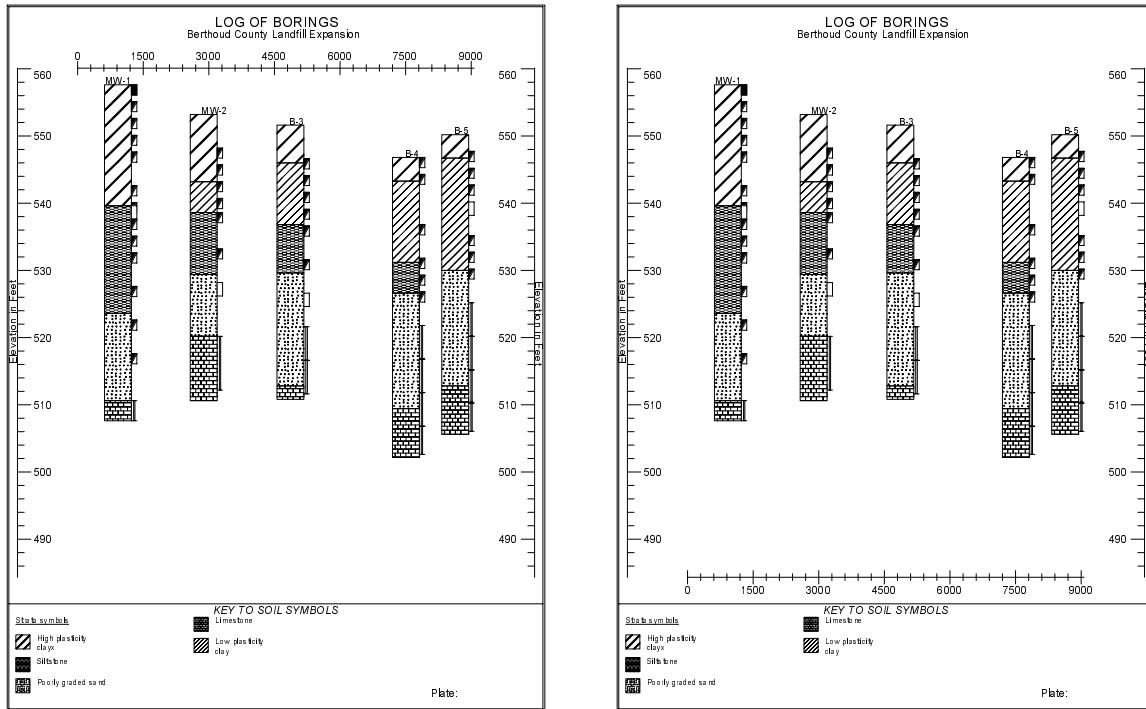

Figure 2.22 -- Profiles with Scale at Top and Bottom
- **Depth scale caption and Elevation scale caption:** All profiles have scales, showing either depth or elevation, on each side of the subsurface area. Both elevation and depth scales have captions that are printed on the side of the scale ("Elevation in Feet" in Figure 2.22): these captions are entered at the **Depth scale caption** and **Elevation scale caption** prompts.